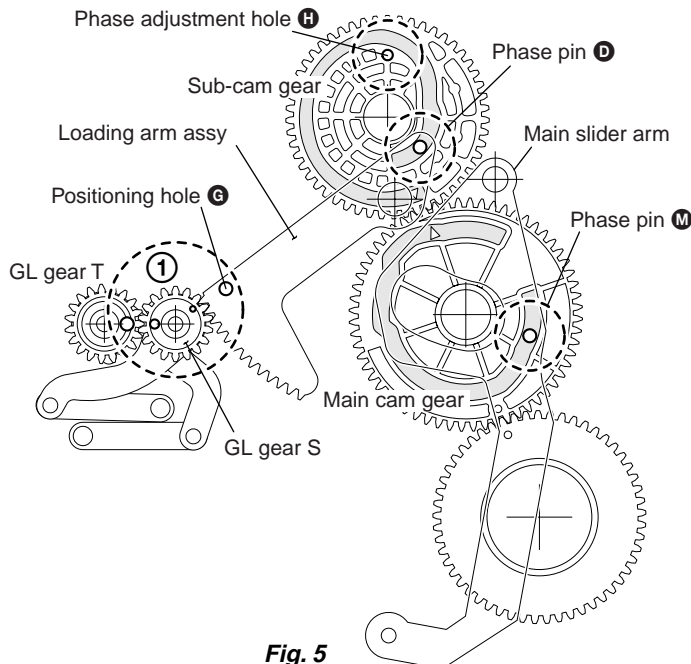
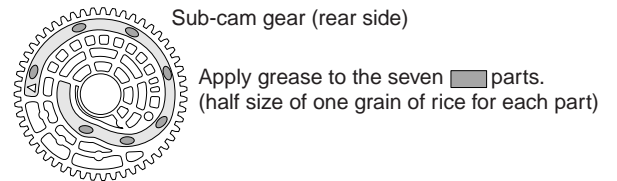
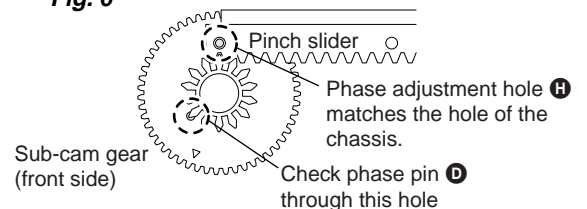

Fig. 5
Fig. 6
Fig. 7
- ① Attach the loading arm assy. (Refer to the figure above.) The phases of the GL gear S and GL gear T must match and the positioning hole **G** of the loading arm assy must be superimposed on the hole of the chassis. (Fig. 5)
- ③ Apply grease to the groove at the rear of the sub-cam gear. (Fig. 6) After applying, adjust the phase of the sub-cam gear to that of the pinch slider. (Fig. 7) Phase pin **D** of the loading arm assy must be inserted into the groove at the rear of the sub-cam gear. (Fig. 5, 7)
Phase pin **M** of the main slider arm should be fitted in the groove of the main cam gear (rear side). (Fig. 5)